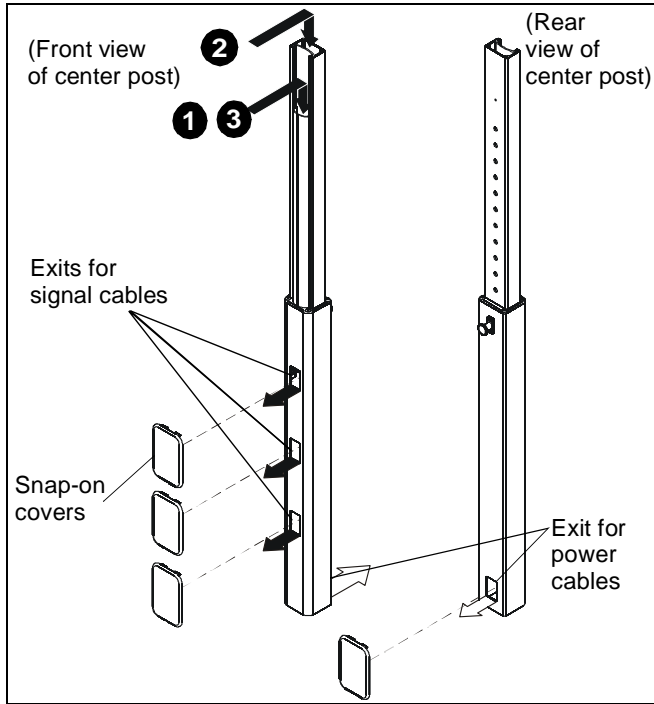

Figure 11
- Signal cables can be run down the front flap of the center post and out the front of the post at any of the openings. (See Figure 11)
- The display power cord can be run through the top and down through the post to exit out the back. (See Figure 11)
- Any accessory power cords can be run through the front and down through the post to exit out the back. (See Figure 11)
- Install the snap-on covers to any opening that is not being used. (See Figure 11)